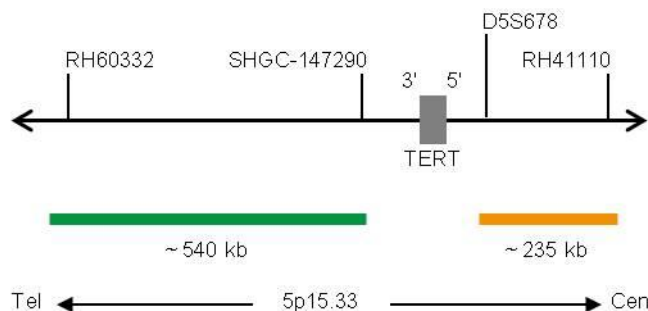

Fig. 1: SPEC TERT Probe map (not to scale)
- ZyGreen (excitation 503 nm/emission 528 nm) labeled polynucleotides (~10.0 ng/μl), which target sequences mapping in 5p15.33* (chr5:620,184-1,161,456) distal to the TERT breakpoint region (see Fig. 1).
- ZyOrange (excitation 547 nm/emission at 572 nm) labeled polynucleotides (~4.5 ng/μl), which target sequences mapping in 5p15.33* (chr5:1,353,007-1,588,209) proximal to the TERT breakpoint region (see Fig. 1).